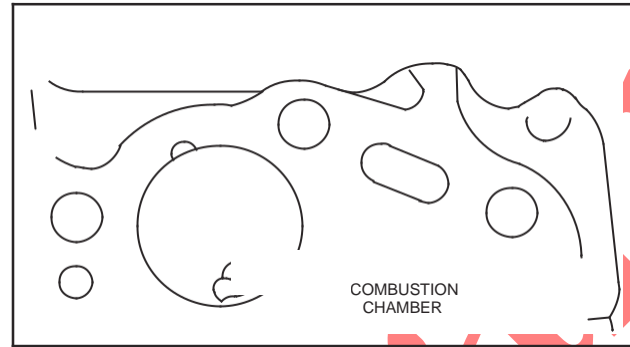

Fig. 16 – Install Combustion Chamber
3. Install combustion chamber, Fig. 16.